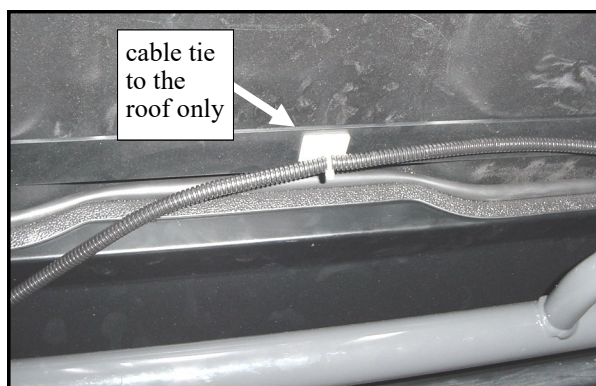

Fig. 3.2 (view from front passenger's side)
3.2 Per fig. 3.2, attach adhesive-backed cable tie holders to the rear steel roof mount (note: a white piece is shown for contrast). Apply to a clean, dry surface at room temperature for best adhesion. Cable tie the first wire harness to the adhesive holders so that only the red power pole connectors need to be disconnected when the roof is removed.